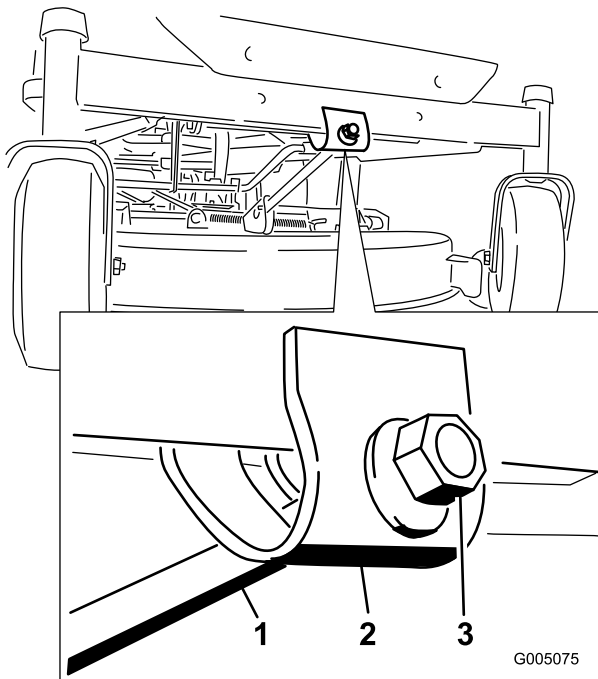

Figure 45
7. To adjust the front-to-rear blade slope, rotate the adjustment nut in the front of the mower (Figure 45).